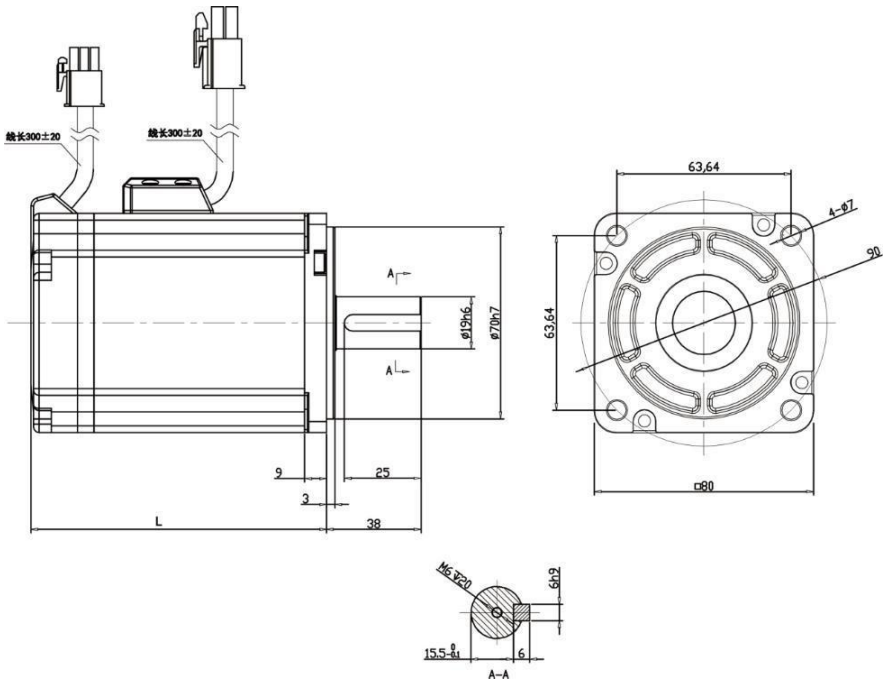

Figure 3.3 80 Motors and Table 3-2
- 80 Mounting dimensions for pedestal motors (see Figure 3.3 and Table 3-2)